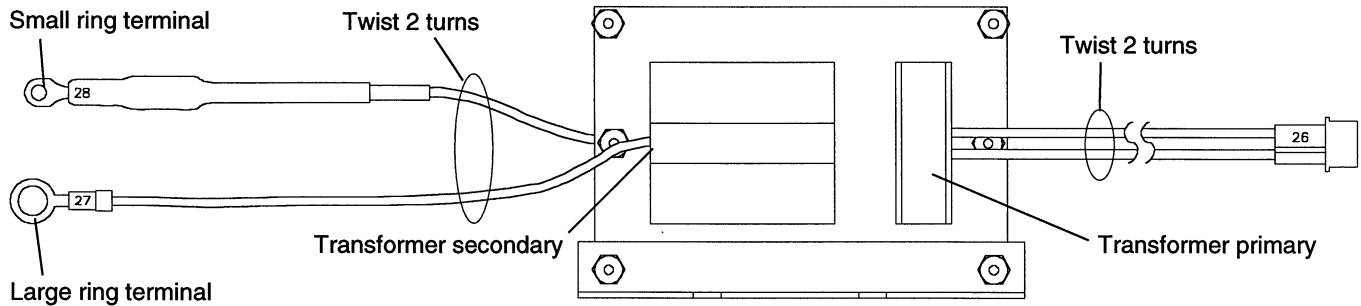

Figure 3 6 kV Transformer Assembly 129150 - side view
- Twist the 2 wires on the transformer primary side 2 turns and connect the transformer's plastic receptacle to its mating connector - Figure 3).